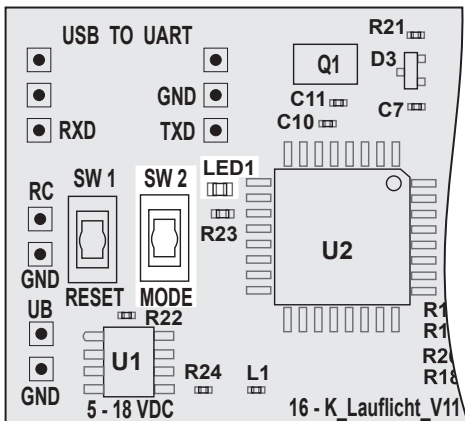

Figure 8
- Hold down the mode button SW 2 until the LED display "LED1" (see figure 8) is lit permanently